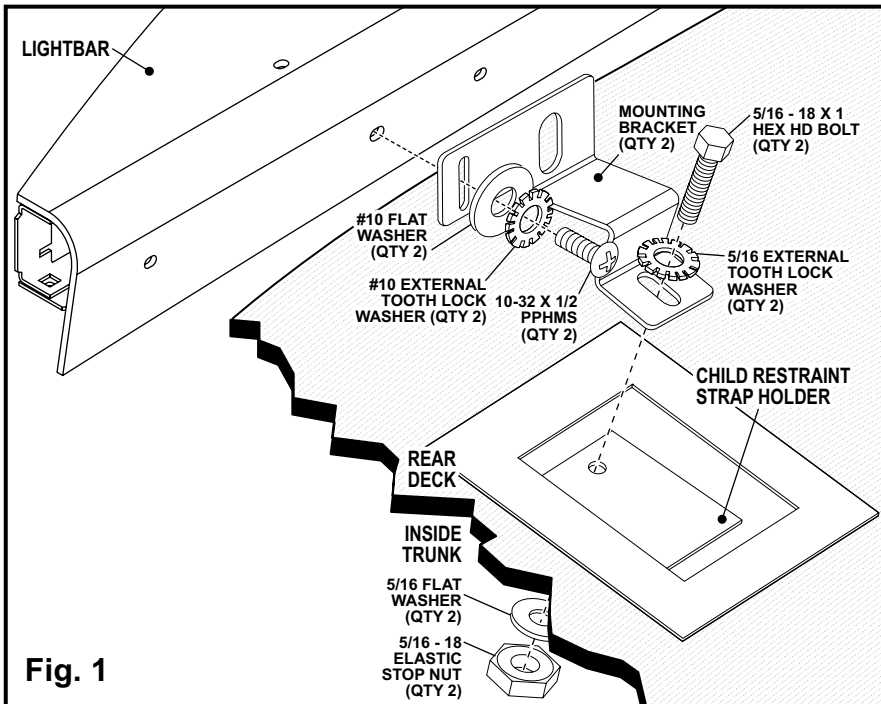

Fig. 1
3. Locate the passenger side lightbar mounting bracket included with the mounting kit. Secure the mounting bracket onto the strap holder using the hardware shown (Fig. 1). Tighten the hardware firmly.